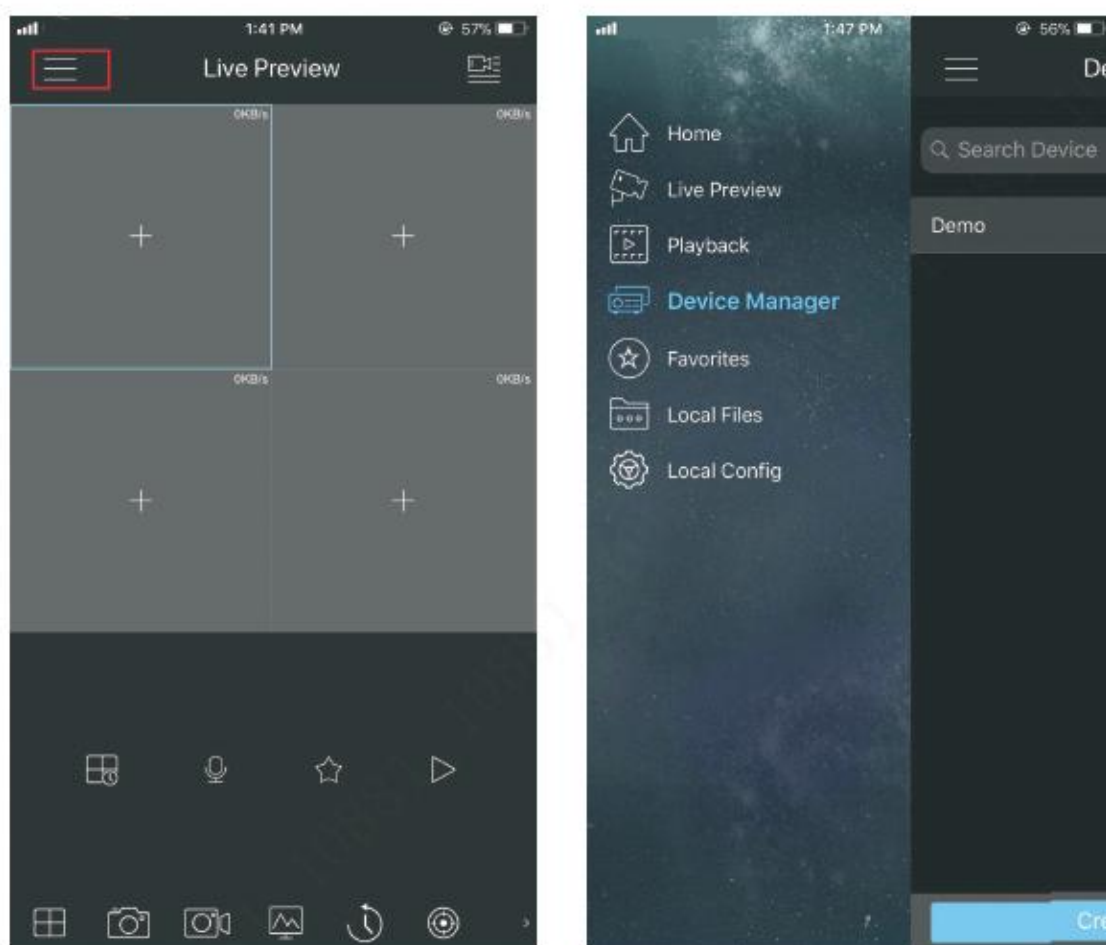

Figure 6-1
- 1) Tap  and then tap Device Manager. See Figure 6-1.